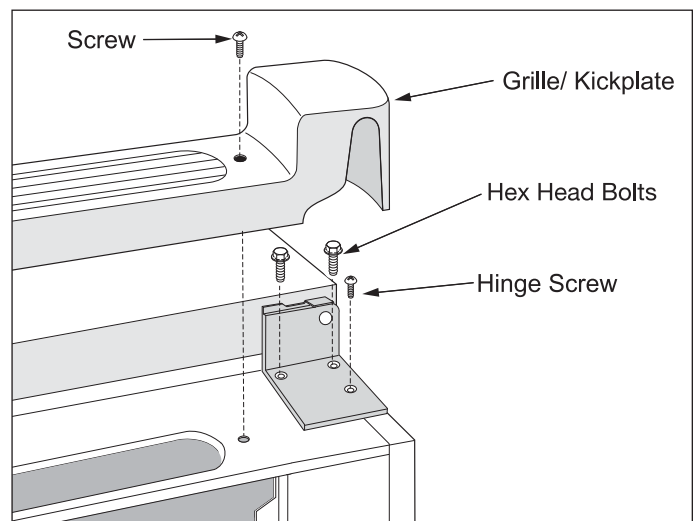

Figure 5-33. Lower Hinge Removal
3. Using a 3/8" socket or wrench, extract the two bolts securing the upper hinge to the unit frame. (See Figure 5-33)